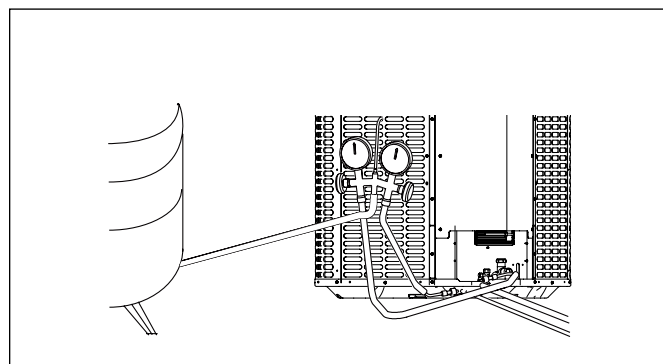

Figure 56
- Connect gauges to refrigerant bottle and unit as illustrated (Figure 56).